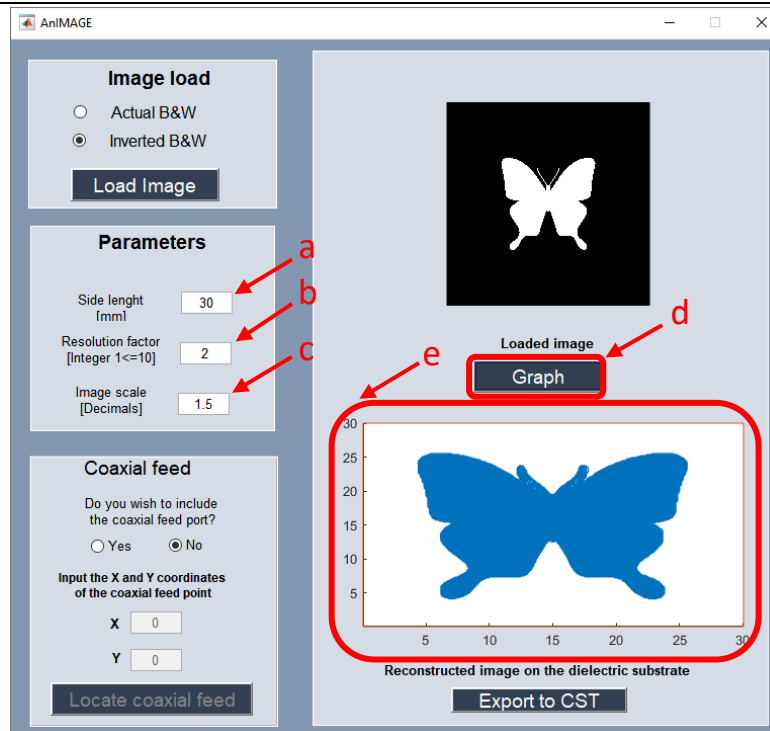

Figure 7. Input of substrate parameters and showing of the reconstructed image based on the entered parameters.
- Side length:** The dimension of the substrate in millimeters must be selected here. In this instance, the two dimensions of the substrate (length and width) will be the same to prevent deformation of the previously loaded image. As shown in Figure 7, for instance, we can input 30 mm for this parameter.
- Image Scale:** This parameter allows adjusting the size of the image so that it is proportional to the substrate. In this example, we will use a scaling factor of 1.5 as illustrated in Figure 7.